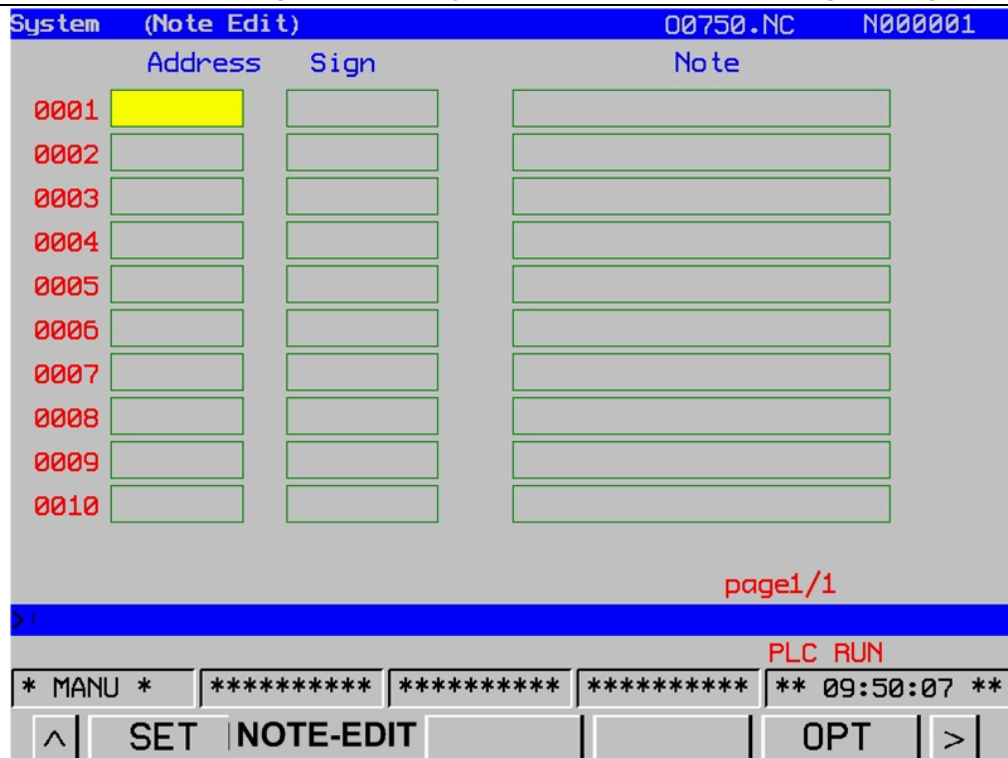

Fig. 3-6-7
- The displayed content can be set by the **[Set]** interface. (Refer to Fig.3-6-7)